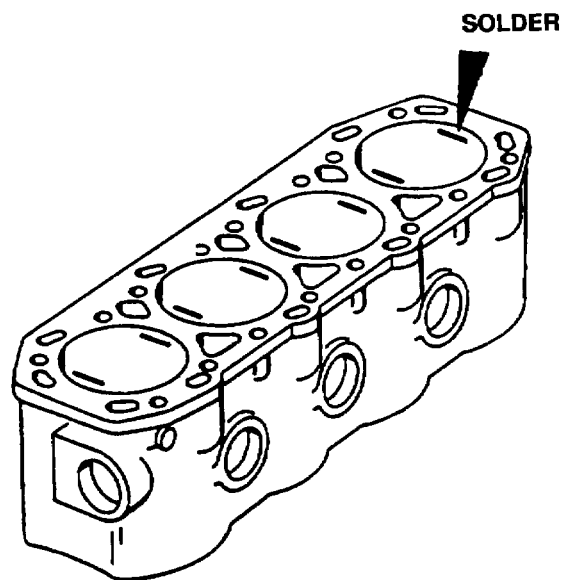

FIGURE 3-30. Checking Cylinder Head Clearance
- (1) Place head gasket onto crankcase. Align holes in gasket with those in crankcase. Rotate engine so pistons are below cylinder head deck
- (2) Using a very small amount of general purpose grease (630AA), place four pieces of solder (SN60WRAP2) size 0.062 in. (1.58 mm) thick on pistons as shown in FIGURE 3-30. Space solder on outer edge and as near as possible in line with piston pin. Care must be taken to ensure that solder will be clear of valve recesses.
- (3) Install cylinder head and torque bolts. Refer to paragraph 3-27.6.
- (4) Manually rotate engine through two complete revolutions.
- (5) Remove cylinder head and measure the thickness of solder. This should be 0.0276 to 0.0354 in. (0.7 to 0.9 mm) and is obtained by a single gasket under head.